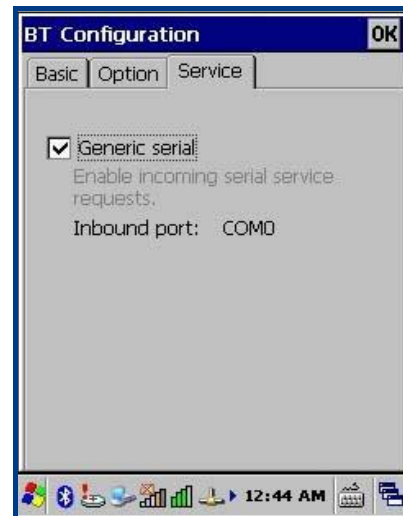

Figure 4.4: Service
- C. Tap the “Service” tab and then select “Generic serial” as per your needs (Figure 4.4).